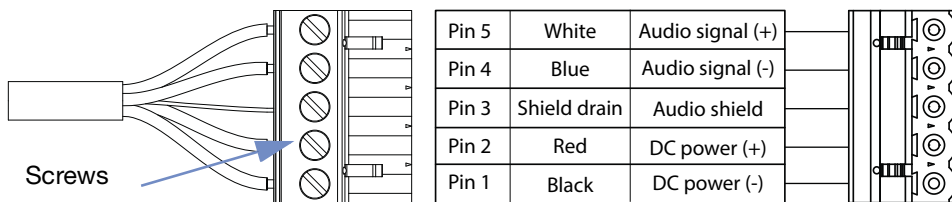

Figure 46: Pin Destinations for Phoenix 5-Pin Female Cable Mount Connector
2. Insert the five exposed conductors into the five cable holes in a Phoenix 5-pin female cable mount connector. Use the wiring scheme shown in Figure 46.